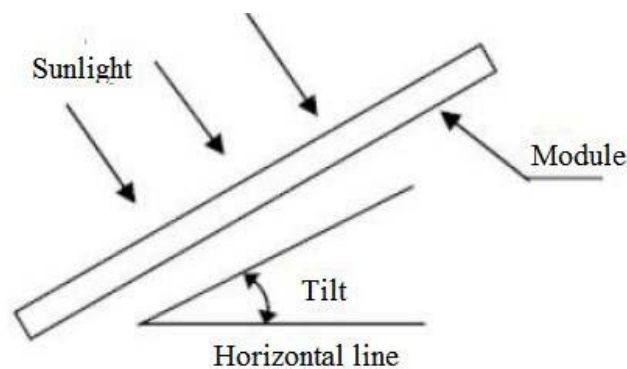

Figure 2. PV module tilt angle
- 3) The tilt angle of the PV module is measured between the surface of the PV module and a horizontal ground surface (as shows in Figure 2). The PV module generates maximum output power when it faces the sun vertical. If you want the specific information of best install tilt angle, please consult the local authoritative solar system construction company.